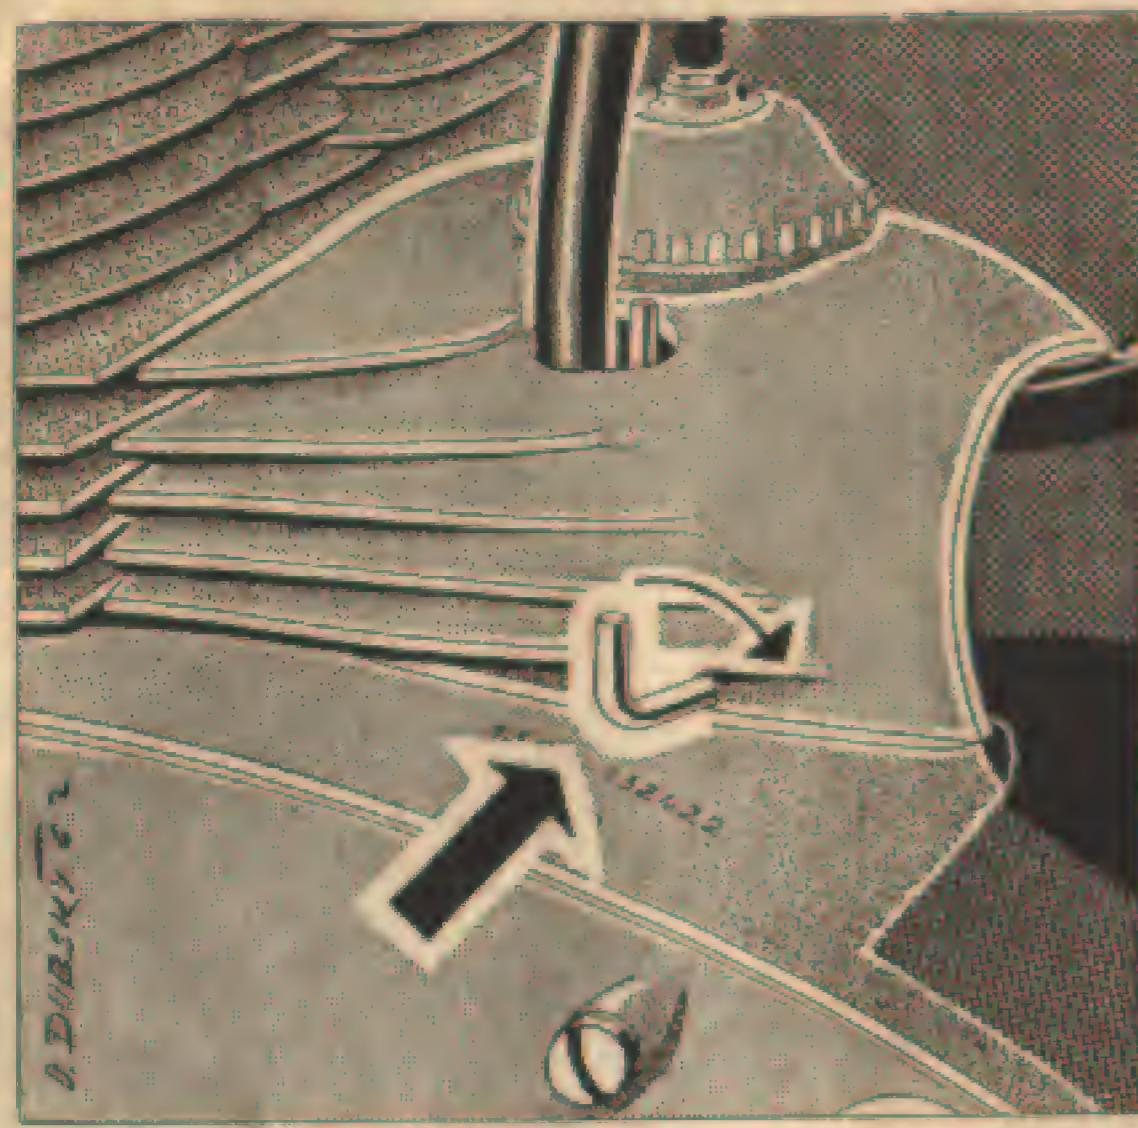

Fig. 10 - Butterfly air valve positions (350 c. c.)
a) Open the fuel tap (turn the lever downwards) and on the motorcycle 250 c. c. turn the choke ring located at the twist grip (Fig. 9). In case of the motorcycle 350 c. c. close the carburettor air-intake by turning the air cleaner strangler (Fig. 10) and flood the carburettor by pressing down the tickler pin. It is quite useless to flood the carburettor until fuel overflows to the induction silencer where it may catch fire.